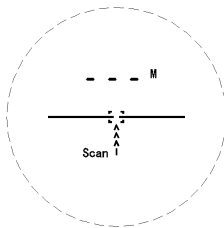
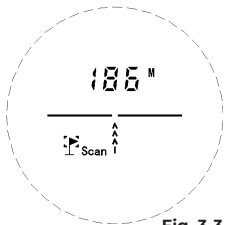

Fig. 3.1
Fig. 3.3
3. Press and hold down the OPEN button till the word Scan comes up on the display under the crosshairs which are now flashing (see Fig. 3.1 on page 12). Continue holding down the OPEN button and gradually point the Laser Range Finder at different objects. For each object (within the Laser Range Finder measuring range), the distance to the object will be displayed on the lens (see Fig. 3.2 and Fig. 3.3).